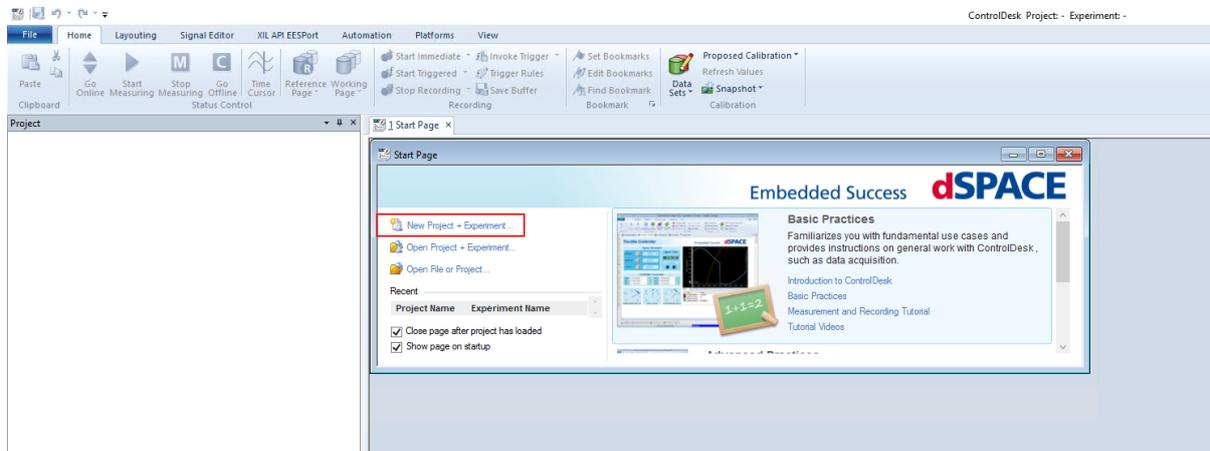

Figure 6.8: Start a new project
- Open dSpace Control Desk and select create new project (see Figure 6.8).